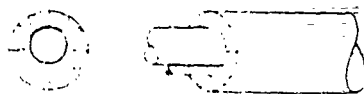

FIGURE 1
3.2 Pipe insulation on chased lines shall be of a size large enough to enclose both pipeline and chaser. The insulation shall be a snug fit to the pipe and chaser or its ring spacer. See Figure 1.